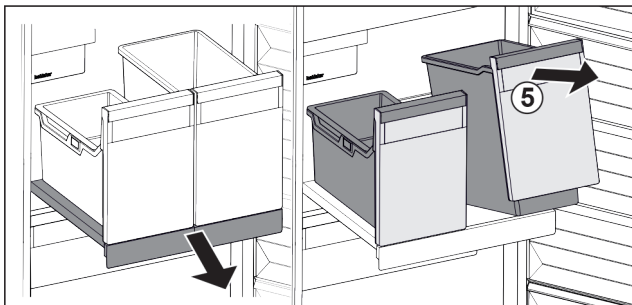

Fig. 97
- ▶ Lift the container Fig. 97 (5) at the front.